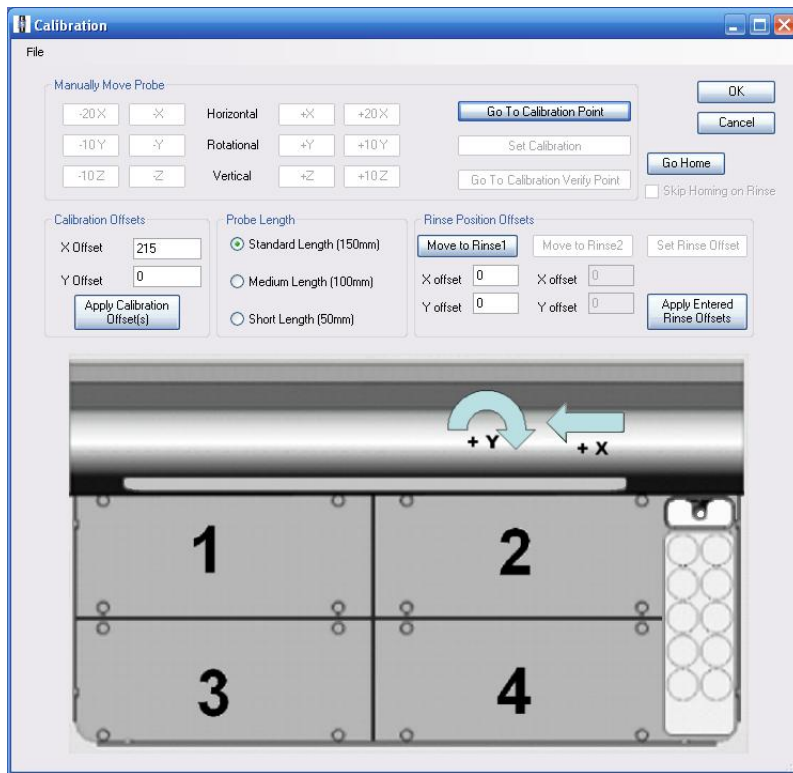

Figure 61: Calibrate Autosampler window.
- 3) Using the **Calibrate>>Calibrate Autosampler** window. See Figure 61.